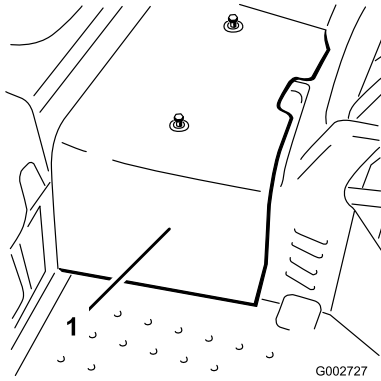

Figure 44
- Loosen the 2 screws securing the center shroud to the machine and remove the shroud (Figure 44).